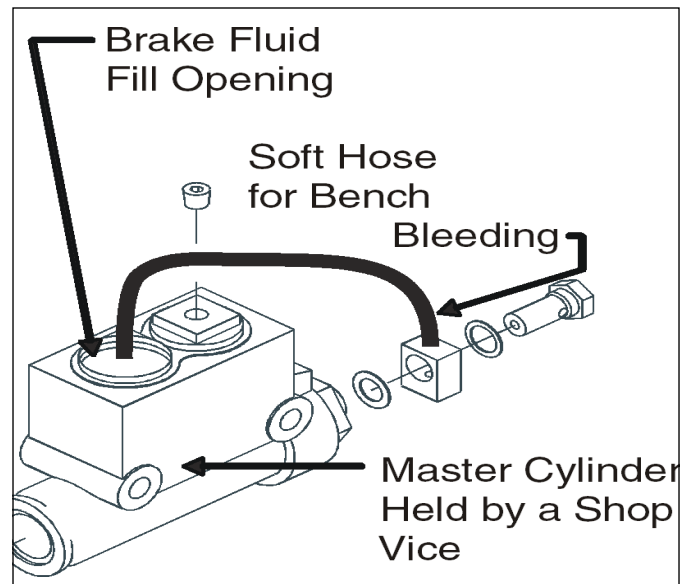

Figure 2-9 Bench Bleeding the Master Cylinder
Whenever the master cylinder is removed and/or replaced, the hydraulic brake system must be bled. See "Bench Bleed the Master Cylinder". See Figure 2-9.
1. Support the cylinder in a vise. See Figure 2-9.